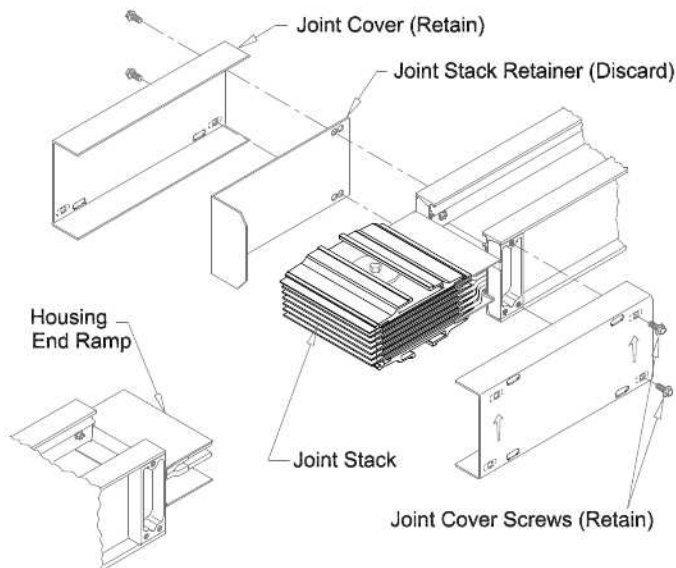

Figure 11. Joint Assembly
9.1.1.2 From the end of the busway with a joint stack, remove the joint covers and joint stack retainer. Discard the joint stack retainer (Figure 11).